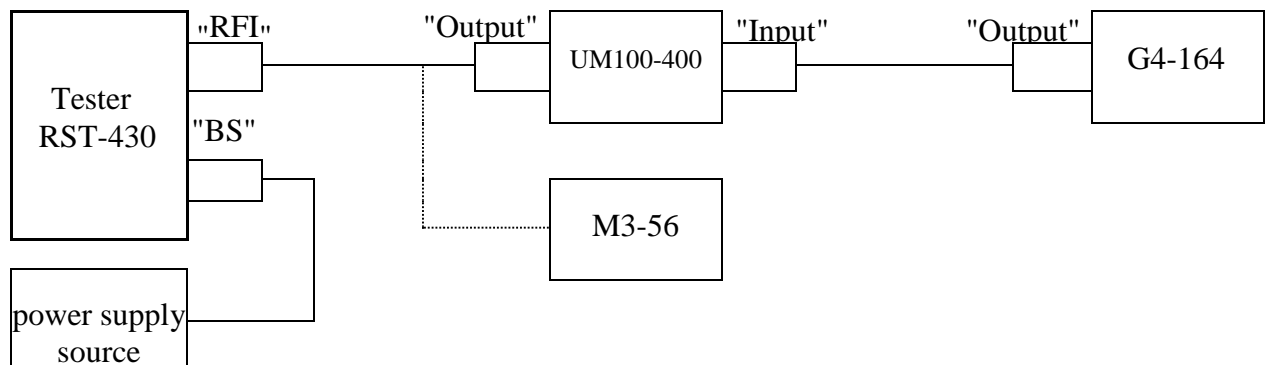

Fig.5
6.3.6 Determination of the error of measurement of the frequency of the HF signals is performed according to the diagram shown on figure 5.
6.3.7 Determination of the error of measurement of the HF signals frequency deviation is performed according to the diagram shown in figure 5.
6.3.8 Determination of the error of power measurement is performed according to the diagram shown in figure 5.